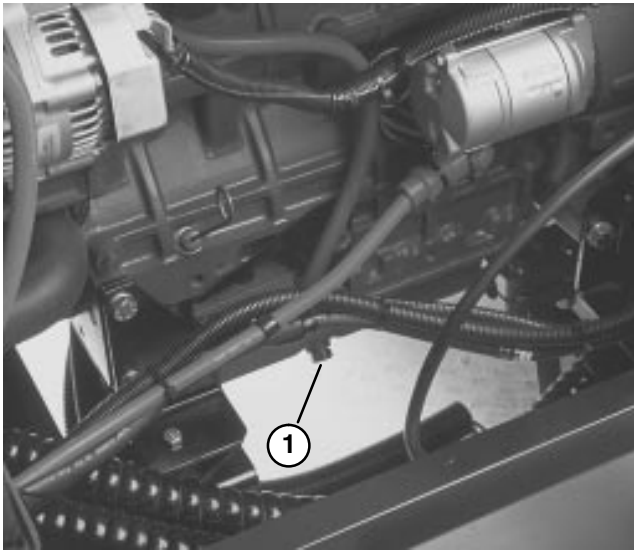

Figure 29
1. Remove drain plug (Fig. 29) and let oil flow into drain pan. When oil stops, install drain plug.